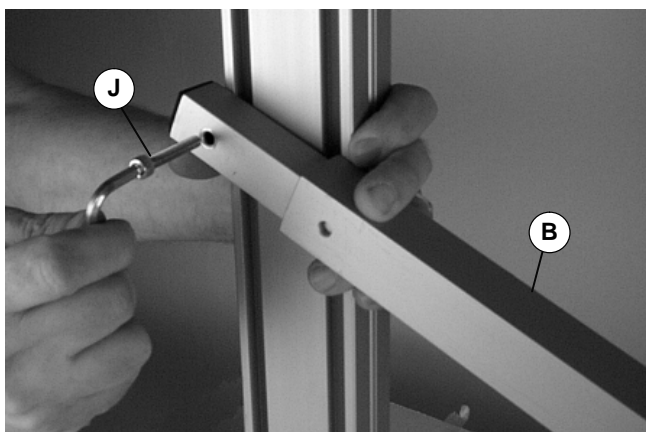

Figure 14
- Attach inner channel end with screw (J of Figure 14)